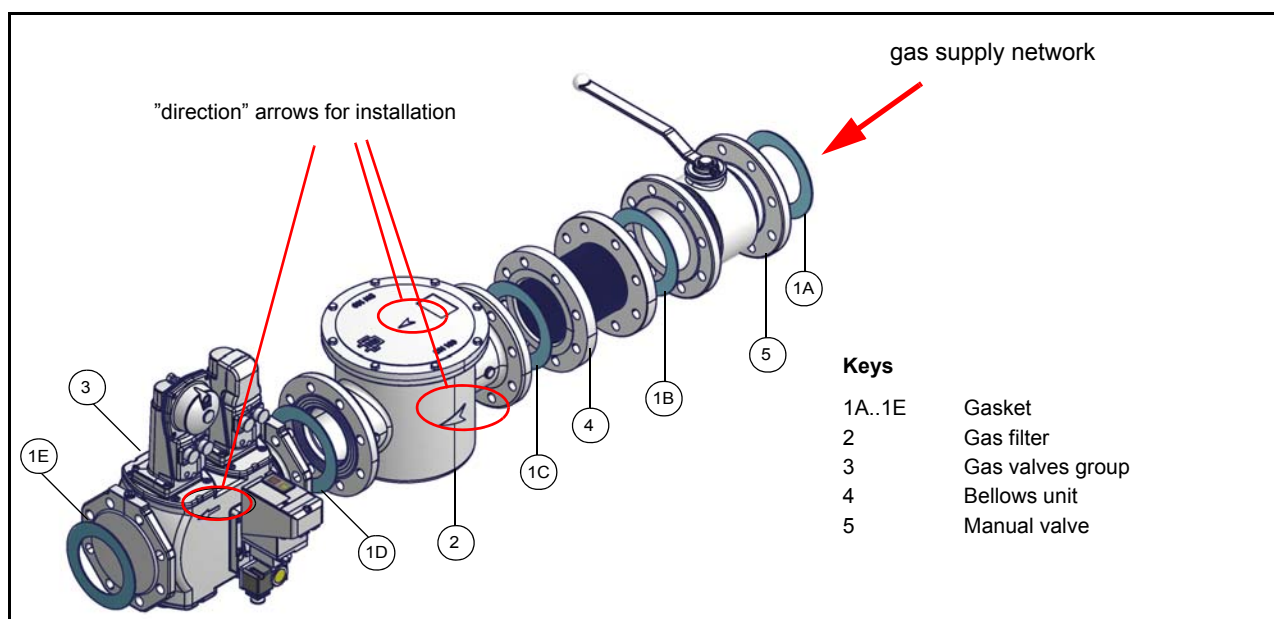

Fig. 3 - Example of gas train
- Cast-iron boilers, three pass flue boilers (with the first pass in the rear part): the blast tube must protrude about 150÷200 mm into the combustion chamber (Fig. 3). The length of the blast tubes does not always allow this requirement to be met, and thus it may be necessary to use a suitably-sized spacer to move the burner backwards (Fig. 4).
- 1-b) in case of flanged joints: place a gasket (no. 1A..1E - Fig. 3) between the elements
ATTENTION: once the gas train is mounted according to the diagram on Fig. 3, the gas proving test must be performed, according to the procedure set by the laws in force.